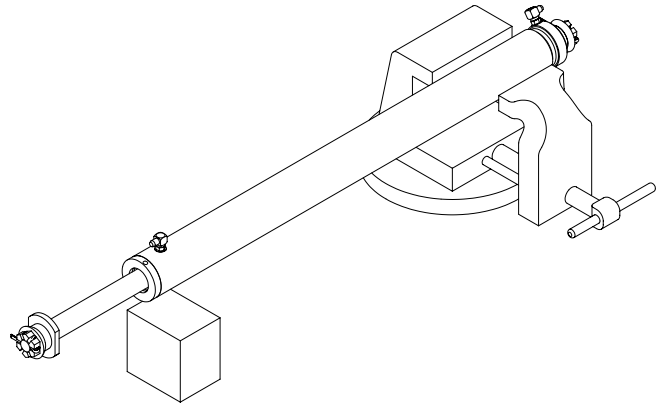

Figure 4-6, Cylinder Vise
2. Clamp the cylinder lightly at the base end in a soft jawed vise. Use a block or other support under the rod end of the cylinder. (Figure 4-6)